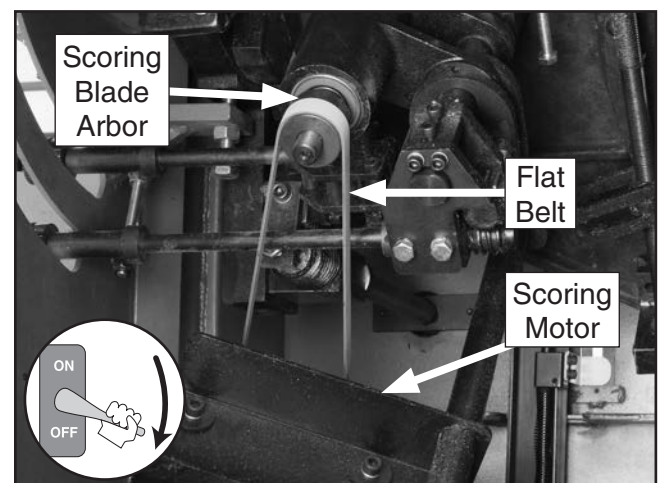

Figure 134. Replacing the scoring motor belt.
5. Place the flat belt on the scoring blade arbor as shown in **Figure 134**, lift the scoring motor, and slide the flat belt over the scoring motor pulley.